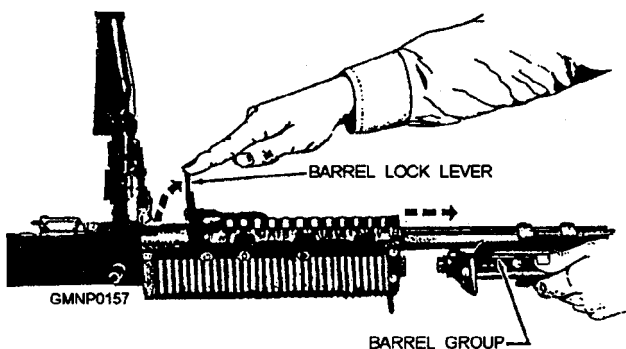

Figure 3-83.—Removing the barrel assembly.
The barrel assembly consists of the barrel, the flash suppressor, the front sight biped assembly, and the gas cylinder. To remove the assembly, raise the barrel lock lever to the vertical position and remove the barrel assembly by pulling it to the front, as shown in figure 3-83.
1. Make sure the barrel lock lever is in the vertical position, as shown in figure 3-83. Insert the rear of the barrel under the barrel cover and align the gas cylinder nut with its recess in the forearm assembly. Lower the barrel lock lever.